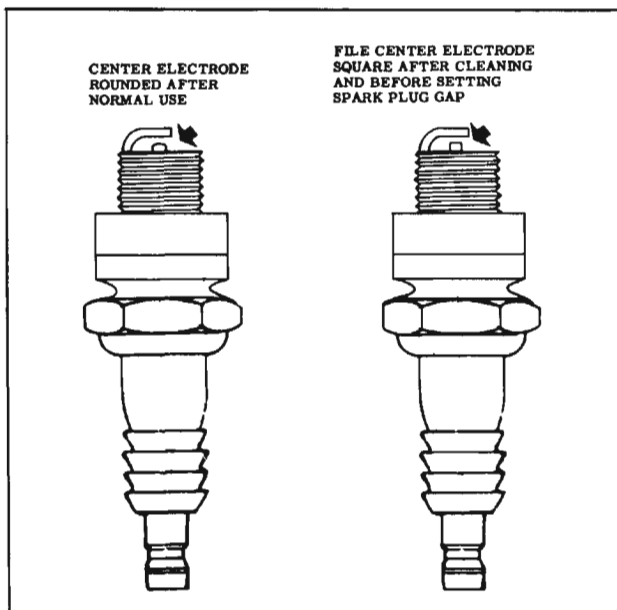

Fig. 14-52 Filing Center Electrode
1. The center electrode should be filed flat before the gap setting is made. (Fig. 14-52)